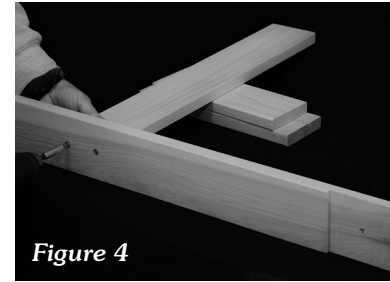

Figure 4
Step 5 - With the dadoes facing out, fasten the Leg Brace between the two legs. (See Fig. 4)